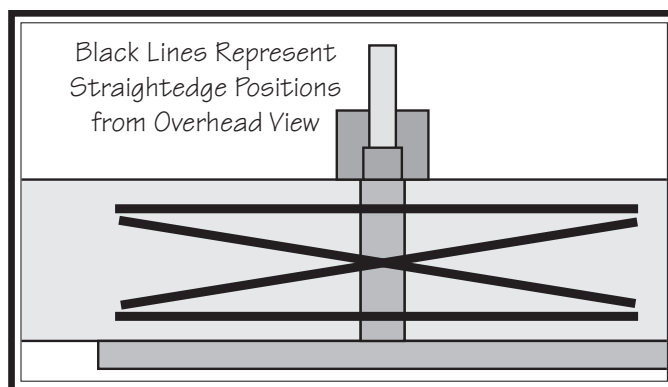

Figure 44. Straightedge positions for checking infeed/outfeed table parallelism.
5. Place straightedge in positions shown in **Figure 44**. In each position, straightedge should sit flat against both outfeed table and infeed table.
4. Place straightedge in one of the positions shown in **Figure 44** on **Page 36**, and adjust table by turning eccentric bushings (**Figures 46–47**) as needed with an adjustable wrench so that straightedge touches cutterhead while lying flat across outfeed table. Repeat this step with each remaining straightedge positions as many times as necessary until outfeed table is parallel with cutterhead to within 0.010"-0.012".
8. Place straightedge in one of the positions shown in **Figure 44** on **Page 36**, and adjust eccentric bushings under infeed table so straightedge lies flat against both tables. Repeat this step with each remaining straightedge position as many times as necessary until infeed table is parallel with outfeed table.